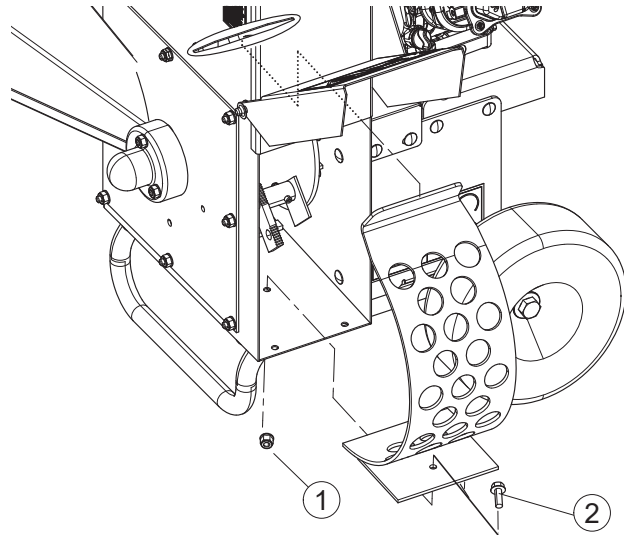

Figure 5.8, Changing the Discharge Screen
3. Remove the 5/16" x 7/8" carriage bolt (1) and flange nut (2) securing the discharge screen to the frame (Figure 5.8). Pull discharge screen out from the bottom and rotate the top downward to remove.